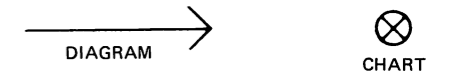

Fig. 5 – Male Connector Codes
- Male connector symbol is illustrated in Figure 5. The symbol used for the diagram and chart is shown.